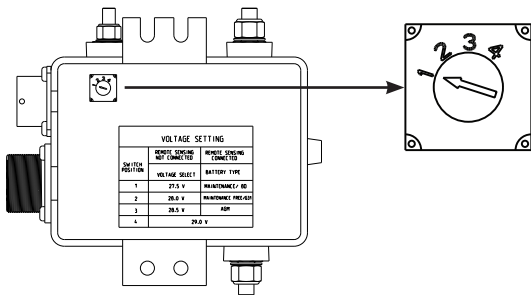

Figure 1: Regulator Voltage Selection Switch
1. Before installing sense harness, remove regulator mounting hardware and turn regulator over to expose voltage select switch. Verify that set point of switch is appropriate for type of battery used in vehicle. If necessary, change switch set point. See Figure 1 and Table 1 for voltage set point options.